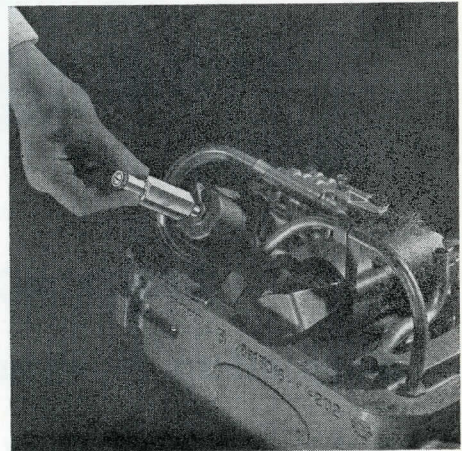

Figure 3
5. Tighten 9/16" hex adjusting screw of the gauge with fingers until stem of gauge is felt to JUST touch the piston within front servo body. Fig. 3.